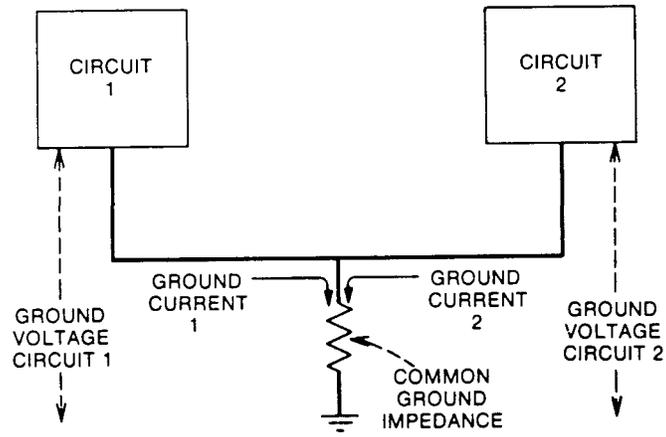

Figure 1-15. When two circuits share a common ground, the ground voltage of each one is affected by the ground current of the other circuit.
- Figures 1-15 and 1-16 illustrate common impedance coupling